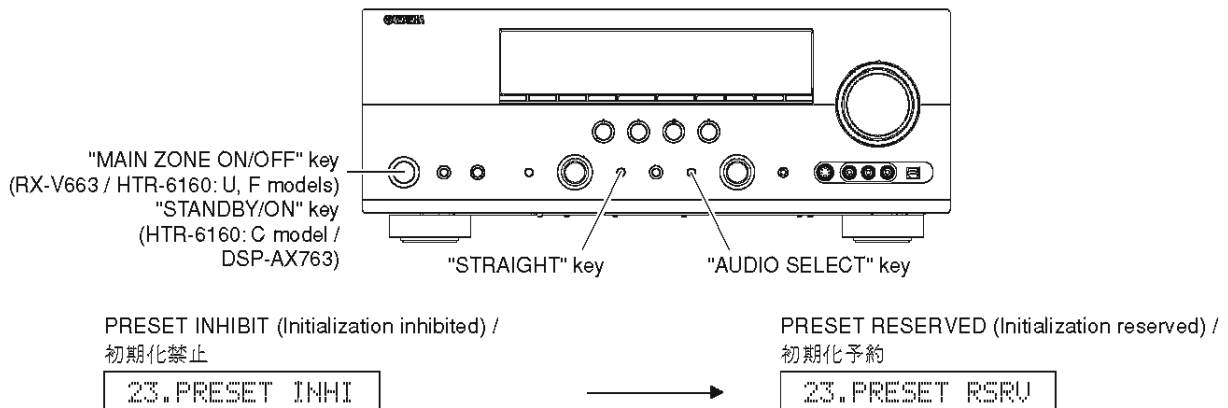

Fig. 7
- 2. Press the "MAIN ZONE ON/OFF" (RX-V663 / HTR-6160: U, F models) / "STANDBY/ON" (HTR-6160: C model / DSP-AX763: B model) key while simultaneously pressing the "STRAIGHT" and "AUDIO SELECT" keys. (Fig. 7)
- 2. "STRAIGHT"キーと"AUDIO SELECT"キーを押しながら、"STANDBY/ON"キーを押し、ダイアグを起動します。(Fig. 7)